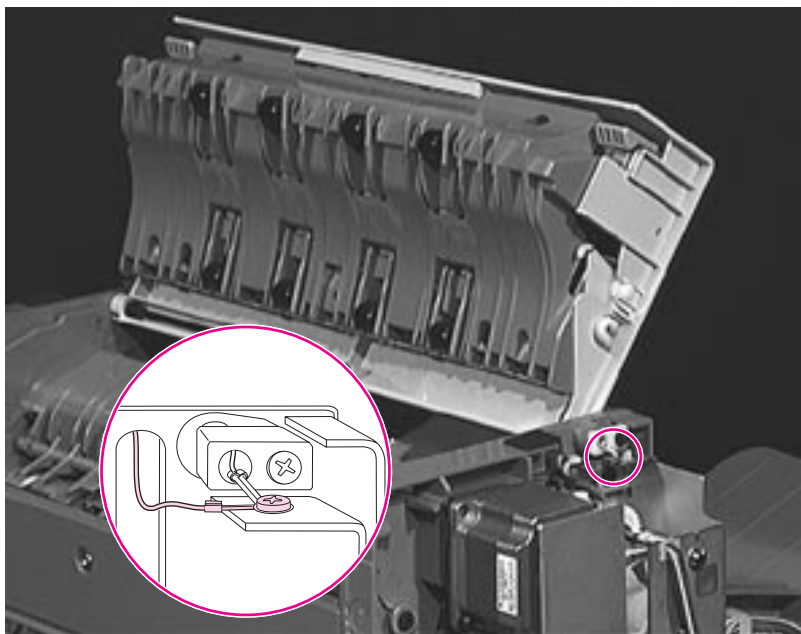

Figure 6-116 Face Up/Diverter Assembly (Flipper) (1 of 3)
- 3 Remove the grounding screw at the top back side (figure 6-116).